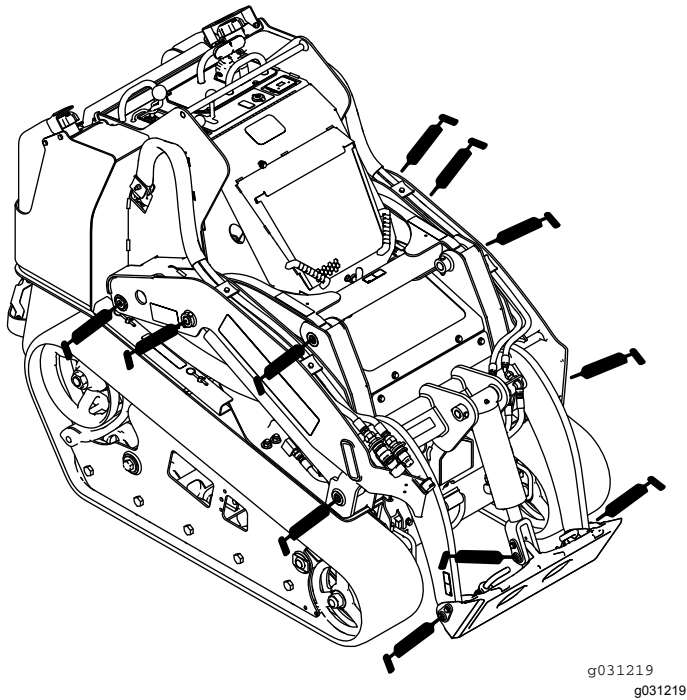
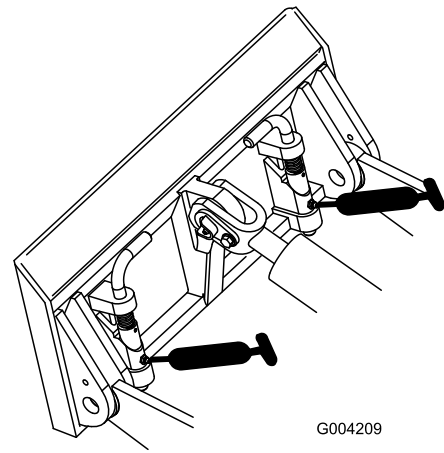
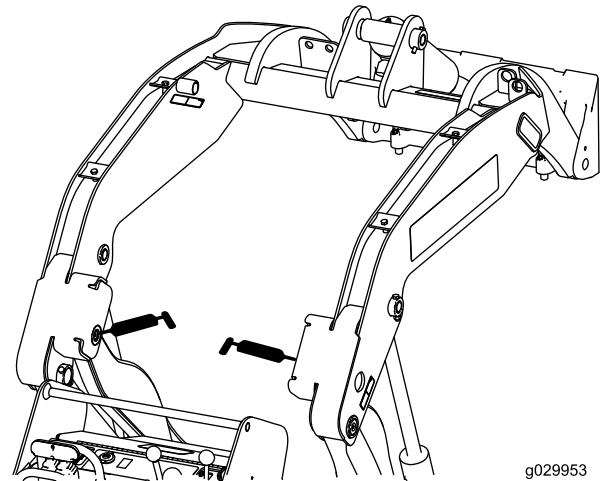

Figure 38
Figure 39
Figure 40
4. Connect a grease gun to each fitting (Figure 38, Figure 39, and Figure 40).
**Note:** Raise the loader arms before greasing the fittings in Figure 40.